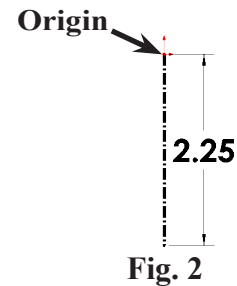

Fig. 2
Step 3. Click **Centerline**  (S) in the **Line flyout**  on the Sketch toolbar.
Step 4. Draw **vertical centerline down** from the Origin , **Fig. 2**.
Step 5. Click **Smart Dimension**  (S) on the Sketch toolbar.
Step 6. Dimension centerline **2.25**, **Fig. 2**.
Step 7. Click **Line**  (L) on the Sketch toolbar.
Step 8. Draw lines as shown, **Fig. 2**. Keep top horizontal line below Origin.